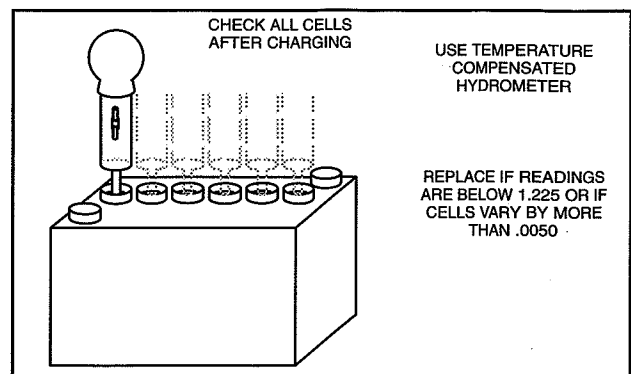

Fig. 38 - Checking 12 V Battery Cells (Lead Acid, Wet Cell, Dry Charge)
3. With battery fully charged, check specific gravity readings of each cell with a Battery Hydrometer and record readings (Fig. 38). All readings should be above 1.250 (compensating for temperature). If specific gravity readings varied .50 or if all cells read less than 1.225, replace battery.